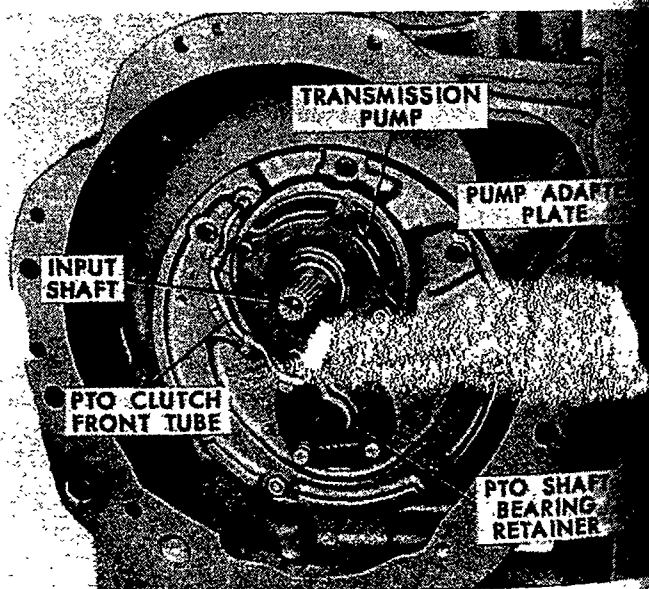

Figure 62
1. Remove the pump, Figure 62, and gasket by removing the four mounting bolts. Tap the pump with a soft-face hammer and slide it from the input shaft.